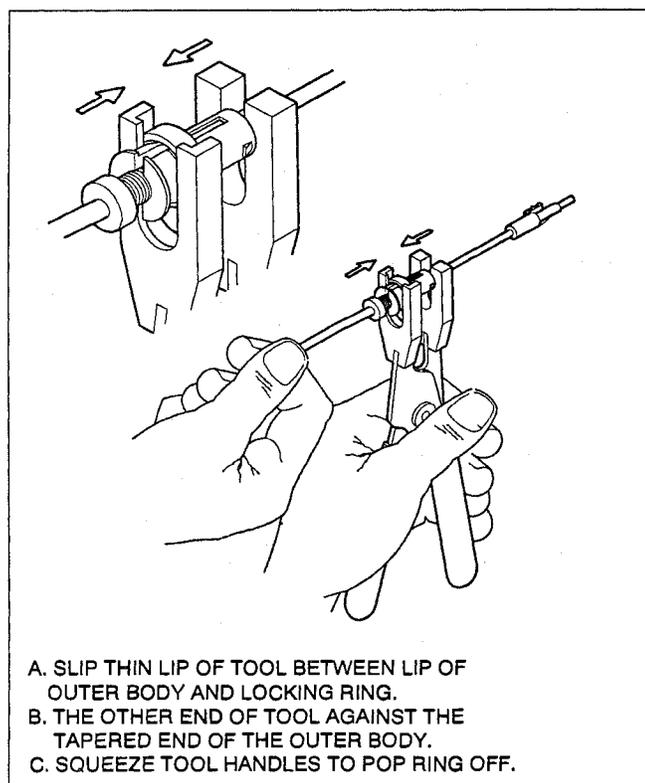

Figure 20 - Unlocking Adjuster Ring on Park Lock Cable
- C. Unlock adjuster ring on cable assembly (48) with tool J 41396. (See Figure 20).